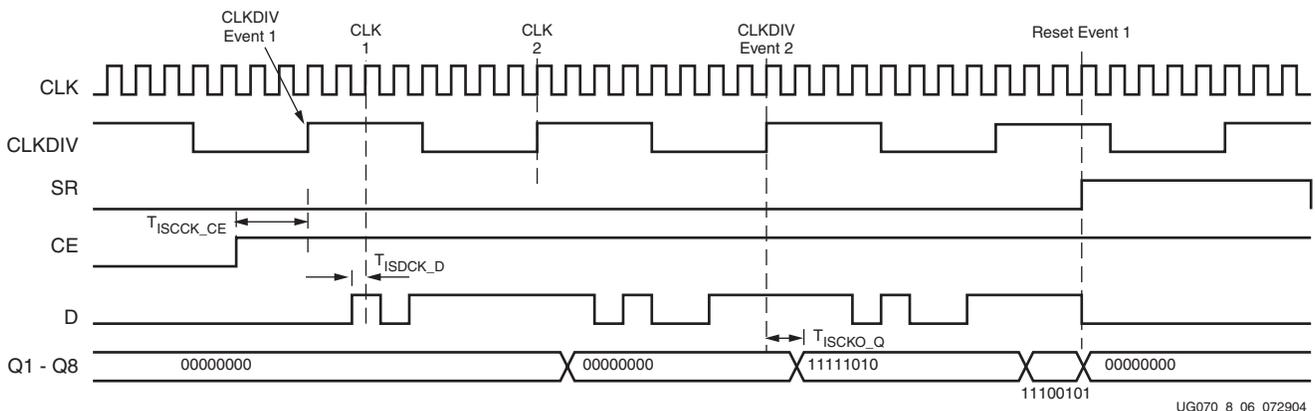

Figure 8-6: 8:1 SDR ISERDES
Figure 8-6 illustrates an ISERDES timing diagram for an 8:1 SDR ISERDES. Due to the nature of the ISERDES, it takes multiple CLKDIV cycles for data to appear. The number of cycles depends on the INTERFACE\_TYPE attribute. Timing parameter names are different depending on the mode (SDR/DDR), however, they do not change for different bus input widths. In DDR mode, the example is similar except the data input (D) switches every CLK edge (rising and falling). The first data bit received appears on the highest order output.